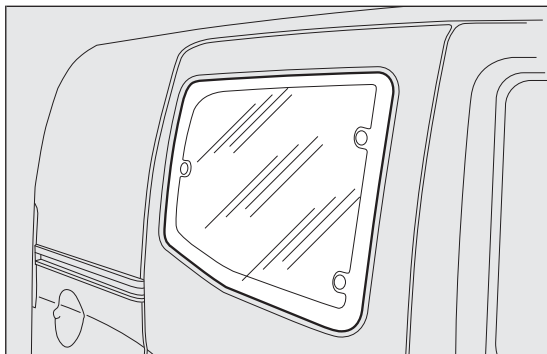
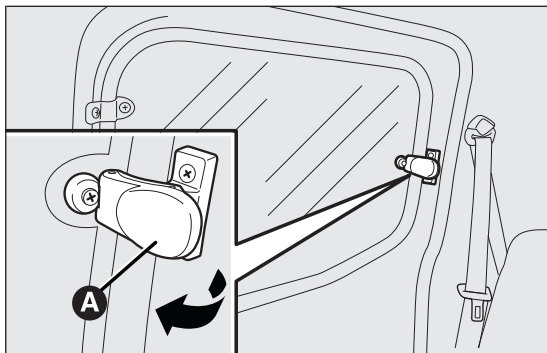

fig. 54
fig. 55
To open, proceed as follows fig. 54 fig. 55:
- ☐ move the lever A fig. 55 outwards until the window fully opens.